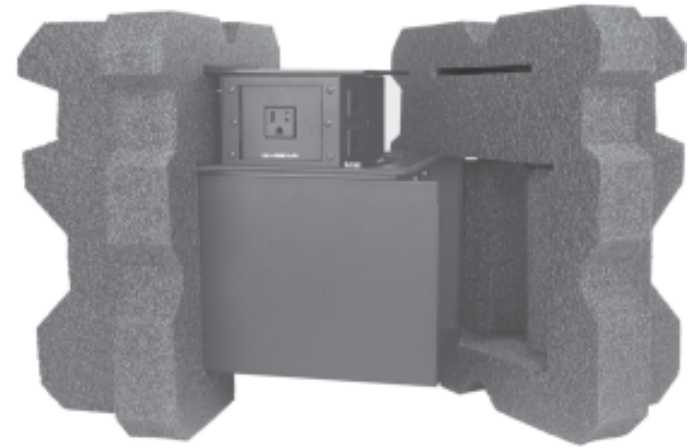

Figure B-4 — Installing the foam shell
7. Insert the HSA 822 and the clamshell into one of the foam shells (figure B-4). Either open end of the clamshell and the open top panel will fit into the recesses in the foam.